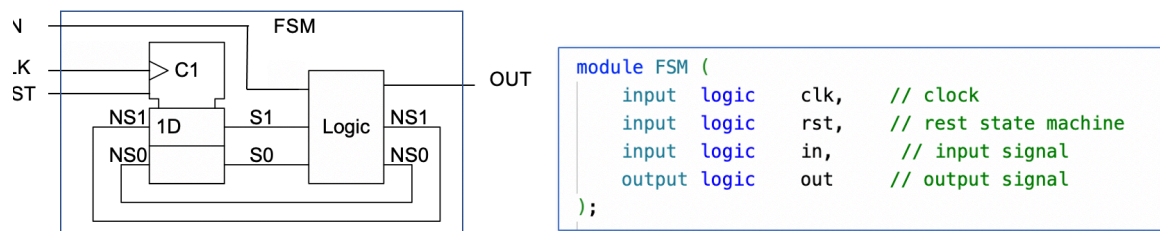

Figure 1.4
- (d) *Figure 1.4* shows the circuit of a finite state machine FSM with four internal states and an output signal *OUT*. The register is clocked by the signal *CLOCK* and synchronously reset to zero by the signal *RST*. The logic block is defined by the following Boolean equations with *S1* and *S0* being the current state variables and *IN* is the input signal:
- (ii) Based on the state diagram, design in SystemVerilog the module FSM using the interface signal shown in *Figure 1.4*. [4]